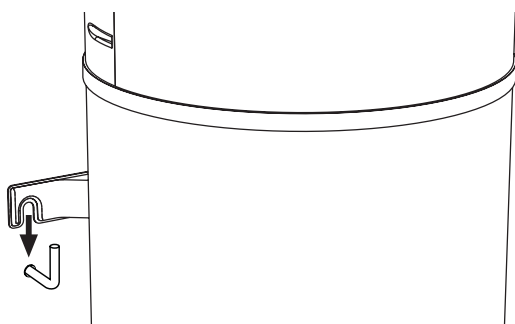

fig. 31 - Wall fixing
- Hook the boiler with the special fastening bracket (fig. 31).